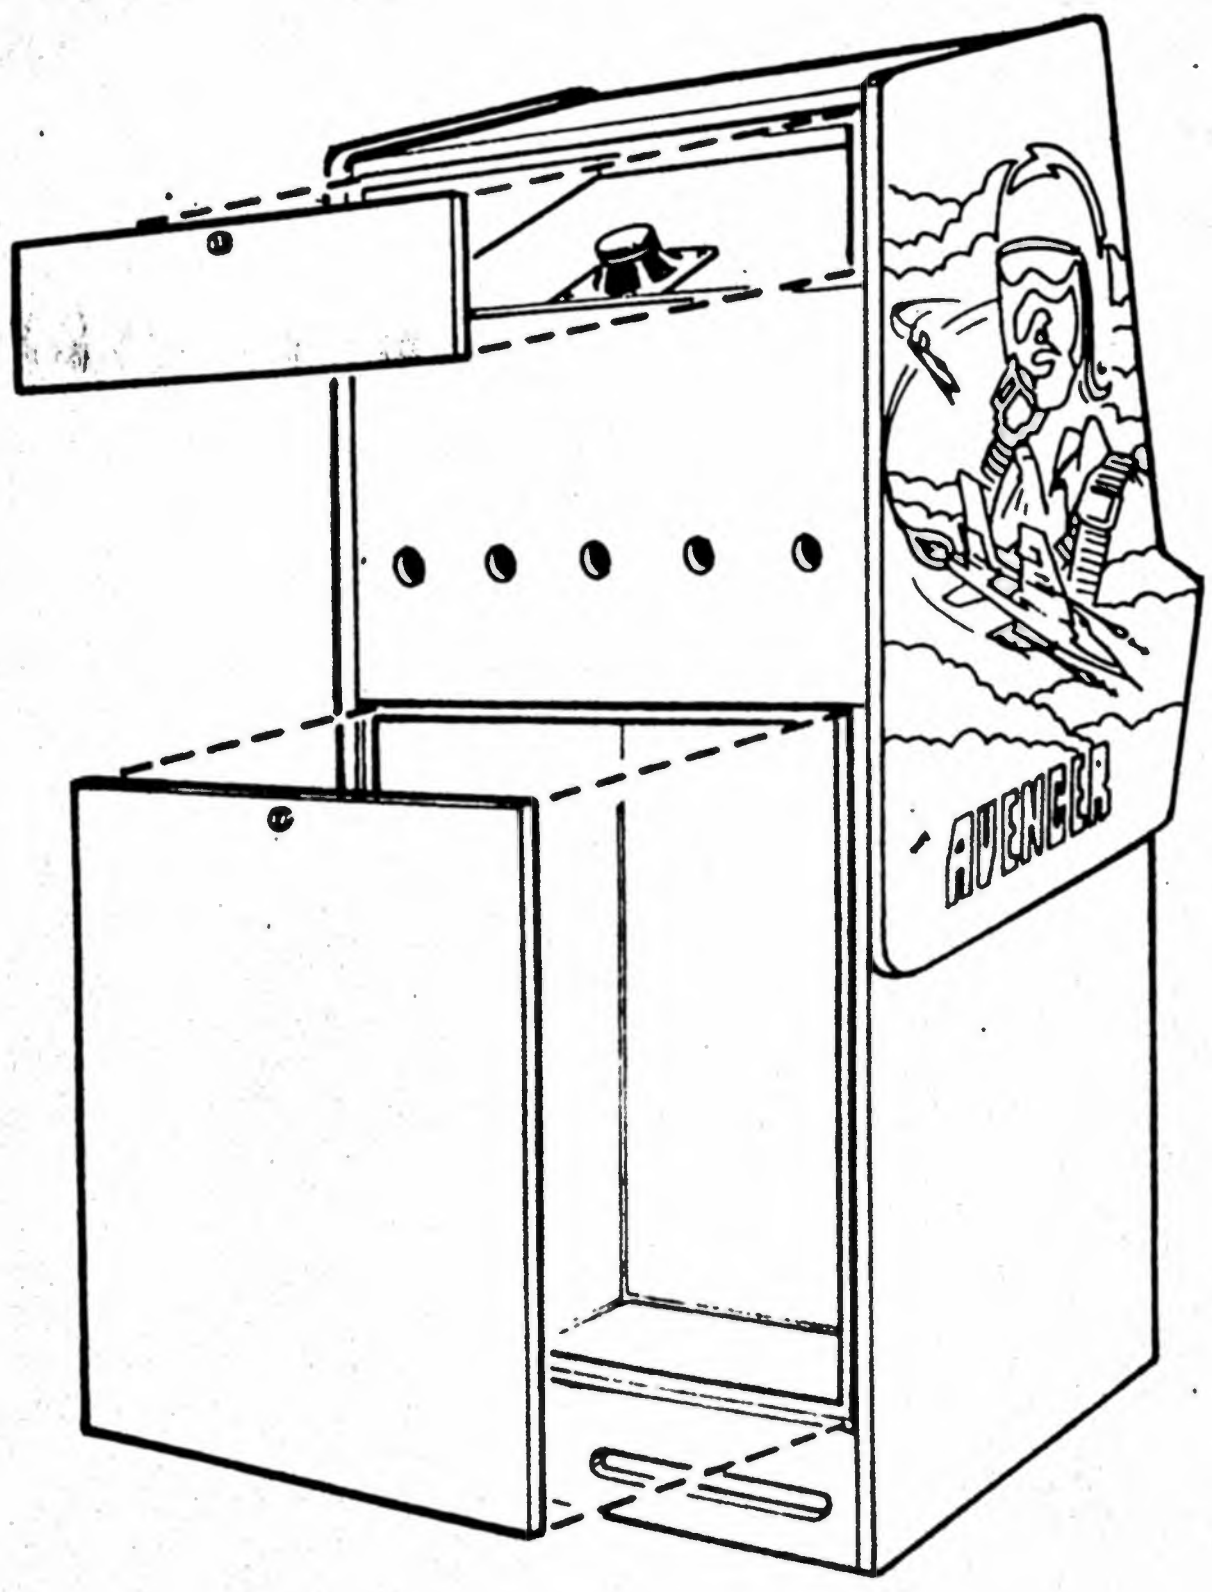

FIG. 1
- Access into the back of the Cabinet is gained by removal of two Back Doors (Refer to Figure 1); the key for these doors is in the Instruction Manual Envelope. The Monitor Adjustments, the type EG-1020 Logic Board, the type PS-3 Power Supply Board, LD-1 Lamp Driver Board, FRB-2 Filter and Relay Board, and Sound Simulator may be reached by removal of the back doors.
- Remove the Back Door (See Figure 1).